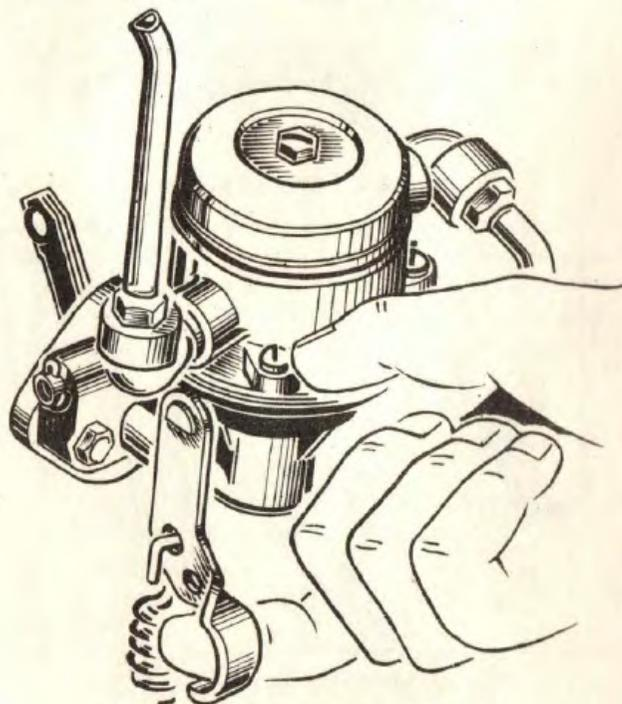

Fig. 12. Carburettor Hand Priming
- If the vehicle has been standing for a long time, operate the carburettor hand priming lever to compensate for possible evaporation of fuel (Fig.12).